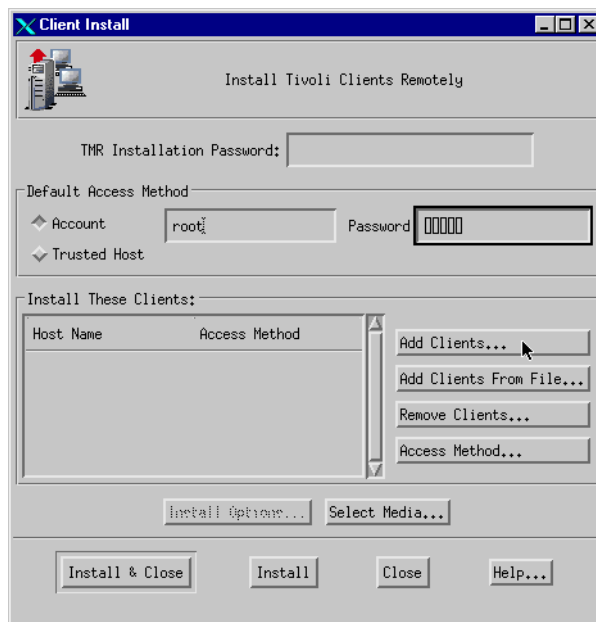

Figure 41. Client Install
10. Insert the root user's password of the node you are installing, and then select **Add Clients** as shown in Figure 41.